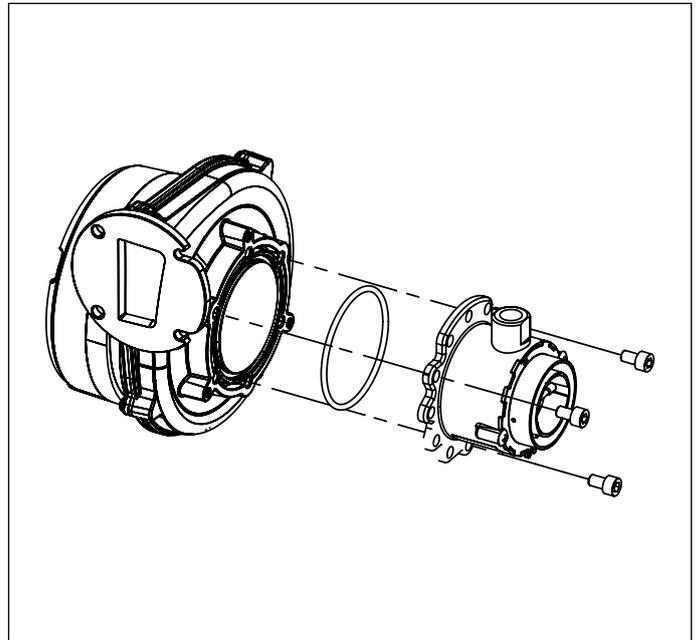

Fig. 36 Mixer
- Loosen the three socket head screws, and remove the mixer (see Fig. 36 Mixer).